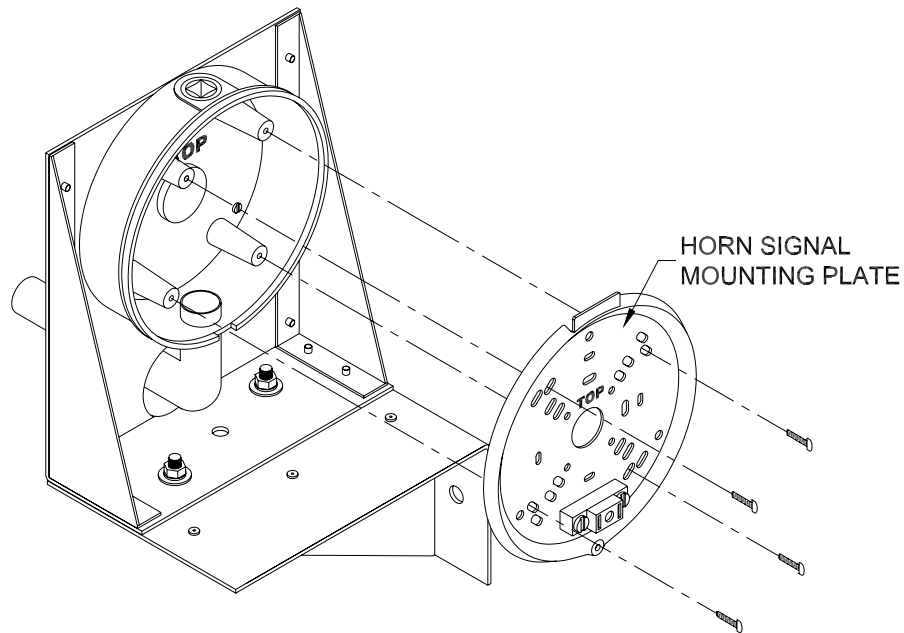

Figure 13 Horn Signal Mounting Plate Attachment
13. Align the horn signal mounting plate with the back box so that the word “TOP” on the horn signal mounting plate and the back box should be oriented in the same direction and the screw hole on the bottom edge of the horn signal mounting plate should be directly over the gap in the back box gasket as seen in figure 13.